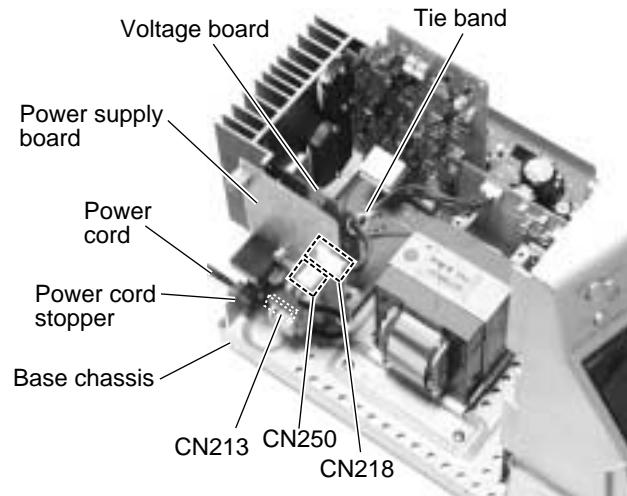

Fig.19
■Removing the power cord / power supply board (See Fig.19)
■Removing the amplifier board / voltage board / heat sink (See Fig.19 to 21)